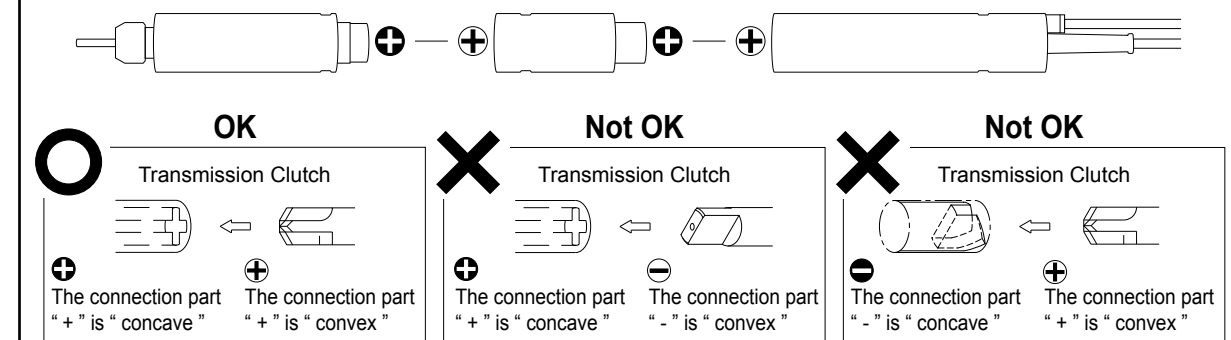

Fig. 7
- The new drive clutch is (+) configuration. The (+) drive spindles were designed to be used with (+) drive Brushless Motors and speed reducers (Fig. 7).